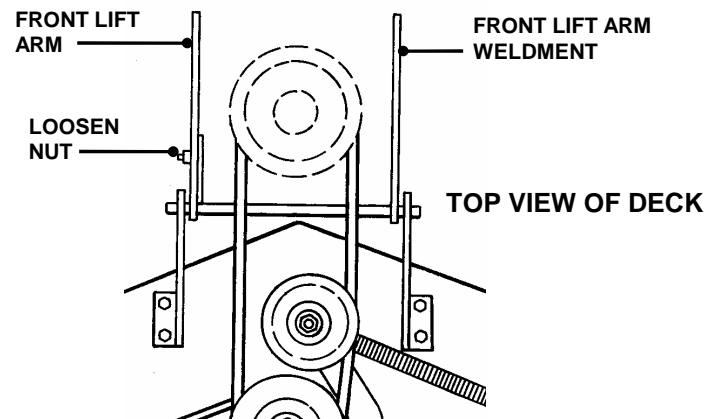

FIGURE 4.7
5. Loosen the bolt and nut that secures the front lift arm weldment to the front lift arm. See Figure 4.7.